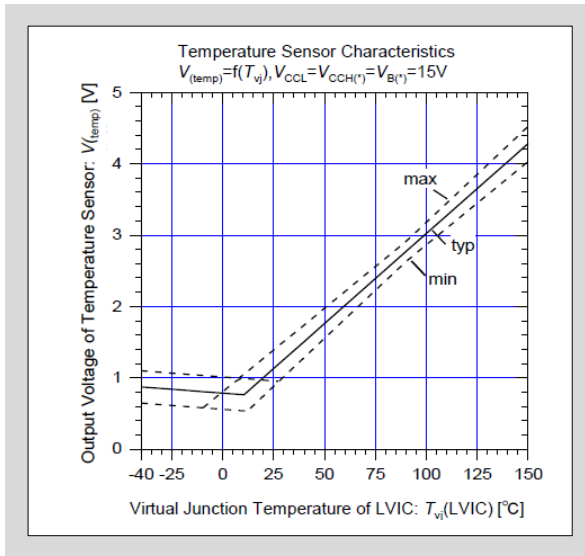

Fig. 3-24 LVIC virtual junction temperature vs. TEMP output voltage characteristic (without pull-down resistor)
- Fig. 3-24 shows the LVIC virtual junction temperature versus TEMP output voltage characteristics. In the case of the MPU power supply voltage is 3.3V, connect a Zener diode to the TEMP terminal. The output voltage shows clamp characteristic at below room temperature. Connect a 5k $\Omega \pm 10\%$  pull-down resistor  $R_{pull-down}$  to the TEMP terminal if linear characteristic is required.